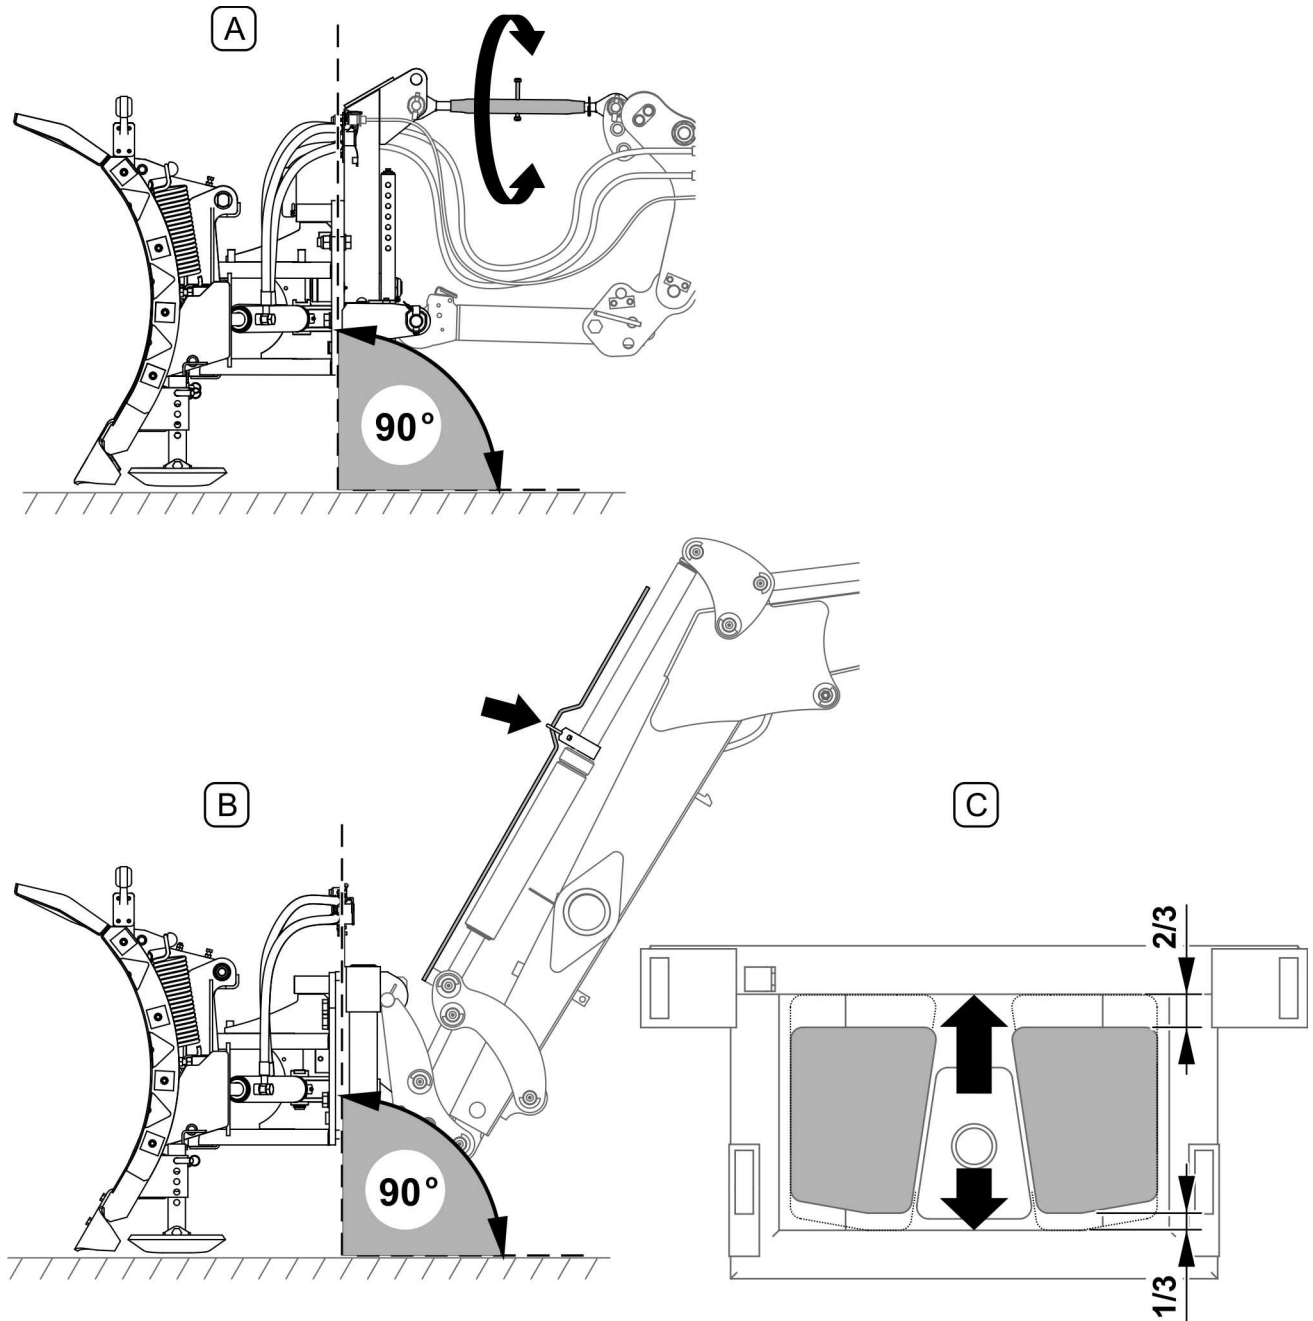

FIGURE 4.7 Positioning plough body
For optimum operation, set the plough body (FIGURE 4.7) at an angle of 90° to ground surface. In carrying vehicles with three-point linkage this is done by controlling the central link, while in front loaders (B) by positioning a mounting frame (e.g., using implement position
indicator, if any). Plough with the swing linkage (eg three-point linkage cat. II, EURO-SMS mount, for EURO, LC-1650 loaders) must be set so that when plough rests on the ground the range of plough body movement relative to the linkage during ground surface tracking is 1/3 down and 2/3 up of the total stroke (FIGURE 4.7, C). When working with the swing linkage plough, make sure that carrying vehicle (tractor three-point linkage or loader boom) linkage is fixed - do not work in a floating position. Boom must not exert load on the plough during work.